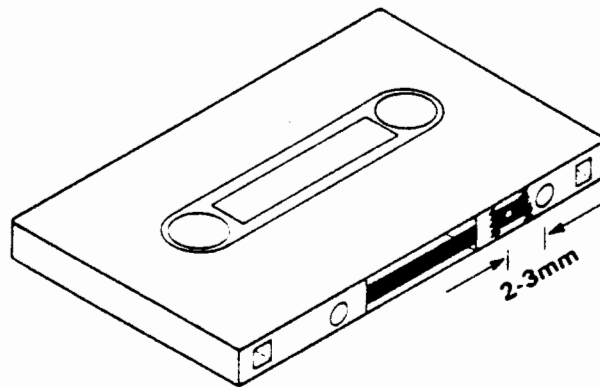

Figure 4-4. Index Hole Position
- If the tape rewinds normally, then moves forward slowly, and stops with the index hole positioned as shown in figure 4-4, the unit is operating properly. Remove the cassette and examine the position of the index hole. The hole should be approximately 3 mm (1/8 in.) past the hole in the cassette. Proceed with step d.